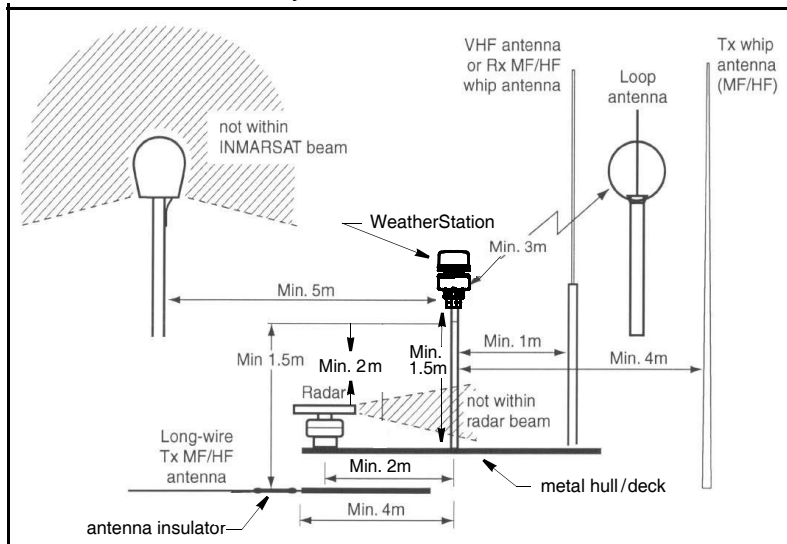

Figure 2. Antennas (Courtesy of Northstar BNT, Acton, MA)
- To prevent interference to the internal GPS (see Figure 2):